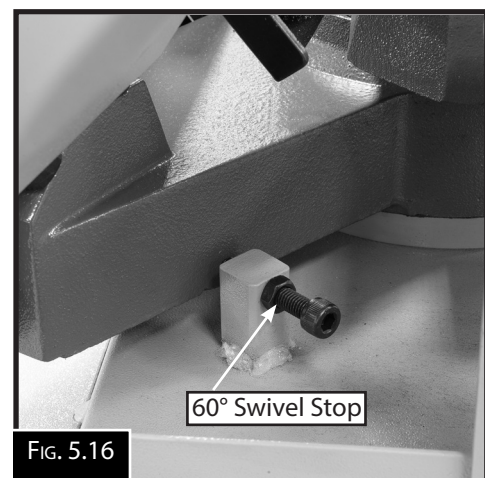

FIG. 5.16
4. Check that the 60° head stop is hard up against the casting. If there is a gap between the casting (Fig. 5.16) and the stop screw, then loosen the lock nut and adjust the stop bolt until it rests against the casting.